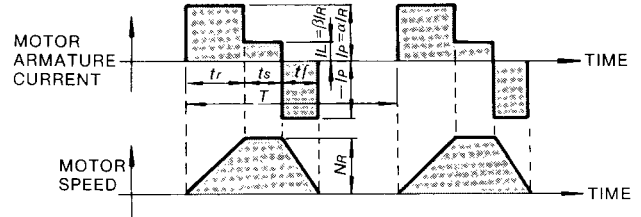

Fig. 4. 4 Timing Chart of Motor Armature Current and Speed
- When the motor remains at standstill between cycles of acceleration and deceleration without continuous rated speed running (Fig. 4. 5)